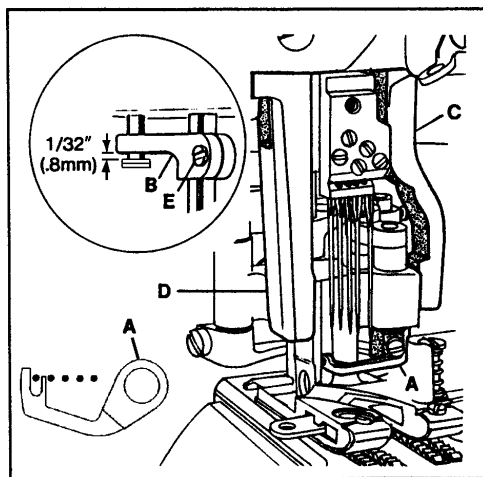

FIG. 20
Remove the presser bar regulating screw and the presser spring. Raise the needle bar to its highest position and remove the retainer. As the foot is slipped under the needles, swing the upper knife into the opening on the right side of the foot and slide the linkage onto the hook driving sleeve. Insert the presser bar through the linkage and into the presser foot shank. Tighten presser foot screw. With the presser bar inserted properly into the presser foot, position the foot left to right so the finger of cover thread carrier (A, Fig. 20) is between the first and second needles. Set presser bar guide (B, Fig. 20 Inset) so foot will not move. Set right presser foot guide (C) and left presser foot guide (D) to maintain setting. Loosen presser bar guide screw (E Fig. 20 Inset) and check to see that foot has vertical freedom with no right to left play, no bind. Put the needle bar in its lowest position, and set 1/32" (0.8mm) above head of presser bar guide stud. Tighten presser bar guide screw (E).
Turn the handwheel in operating direction until link (A, Fig. 20) has traveled fully to the front. There must be a 1/64" (0.4mm) clearance between link (A) and the back of needle head (B) when link (A) starts to jackknife. Loosen screw (C) and rotate driving sleeve (D) to position link (A). Tighten screw (C).